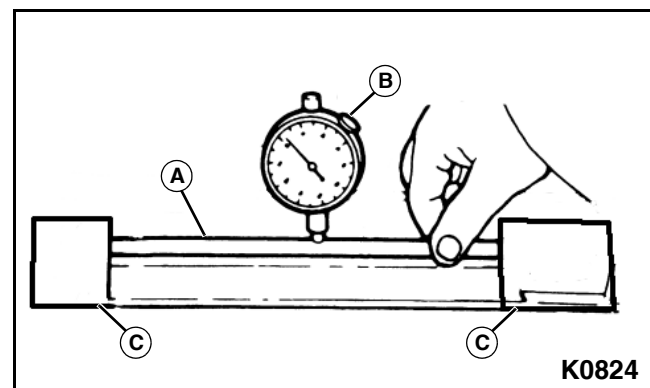

Figure 3-148
1. Place the push rod (A) on a pair of V-blocks (C). Using a dial indicator (B), measure the runout on the dial indicator gauge by slowly rotating the pushrod and observing the reading on the dial indicator (B). **See Figure 3-148.**